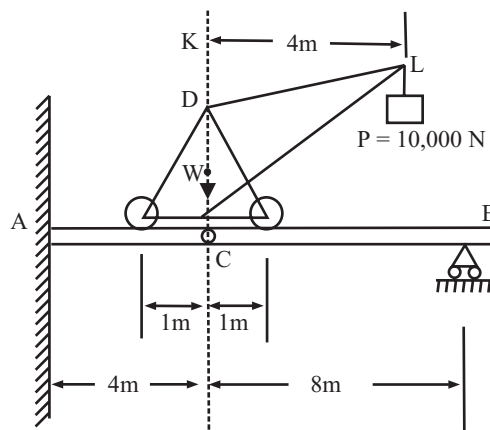

Fig 5
Q.5. One end A of a split horizontal beam ACB is fixed into a wall and the other end B rest on a roller support. A hinge is at a point C. A crane weighing $W = 50,000\text{N}$ is mounted on the beam and is lifting a load of $P = 10,000\text{N}$ at the end L. The C.G. of the crane acts along the vertical line CD and $KL = 4\text{m}$ as shown in fig 5, Neglecting the weight of the beam, find the reaction/moments at A and B.